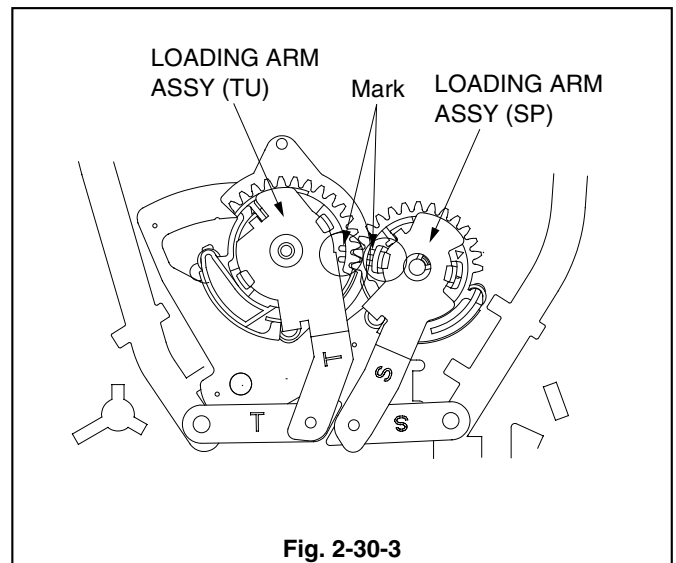

Fig. 2-30-3
3. Install the LOADING ARM ASSY (SP) and LOADING ARM ASSY (TU) so that the Marks on the both UNITS face each other, as shown in the Fig. 2-30-3.